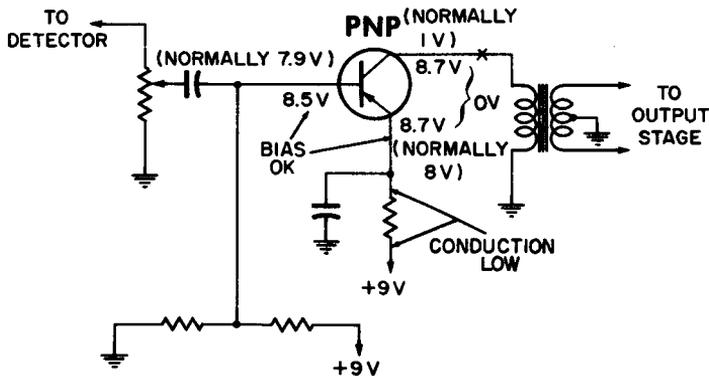

Fig. 10-2. Improper voltages resulting from an open in the collector circuit.
*Result*—All driver transistor voltages read about the same (see Fig. 10-2). The collector voltage was very high.